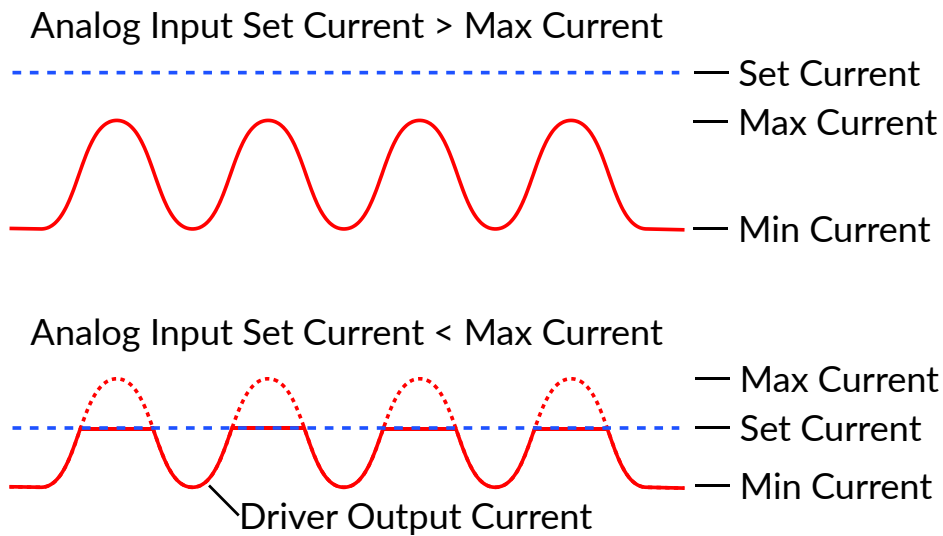

Figure 4.5: Driver and Light Source in External Analog Mode
- c) The **External Analog** mode (Fig. 4.5) is similar to the External TTL, except that the current will be set by the voltage on the BNC input (Fig. 4.5 top). On the input BNC, a maximum voltage signal corresponds to a maximum driver current. Should the current set on the light source be less than the maximum current, any voltage corresponding to a higher current will clip the output waveform (Fig. 4.5 bottom). To avoid any clipping of the output waveform, the maximum current setting must be equal to or greater than the corresponding maximum analog input voltage. See the corresponding light source manual to find the voltage/current relationship. This mode has no additional sequence options.